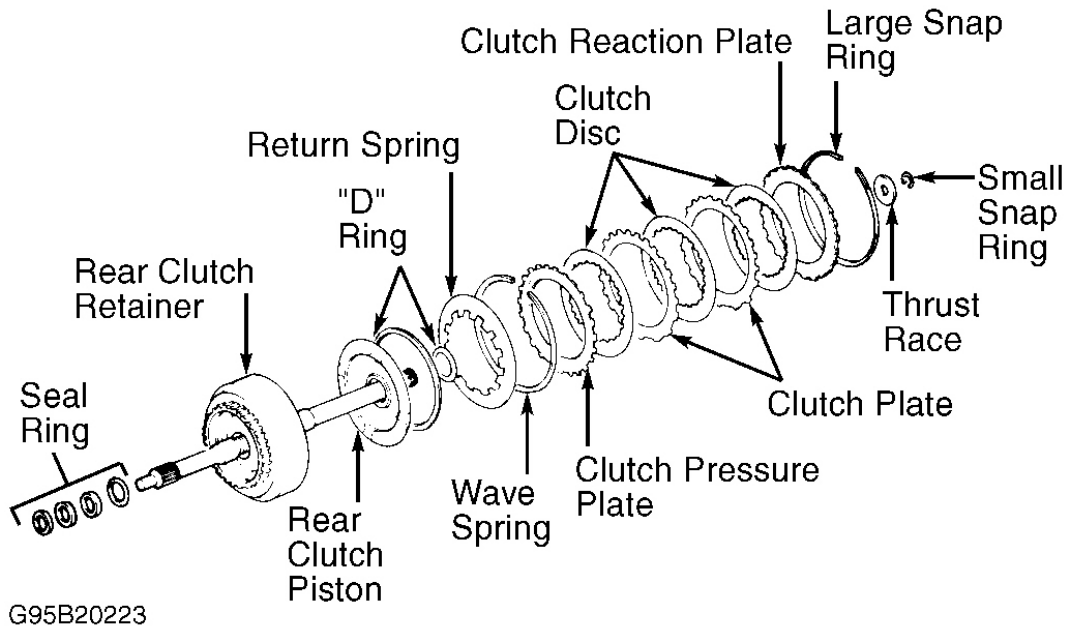

Fig. 24: Exploded View Of Typical Rear Clutch
1. Remove small snap ring and thrust race. See **Fig. 24** . Remove input shaft from rear clutch retainer.
rear clutch retainer. See **Fig. 24** . Note direction and number of clutch plates and clutch discs installation for reassembly reference, as different models may use different number of components.
- Install rear clutch piston in rear clutch retainer. Use care not to damage "D" rings when installing rear clutch piston. Install return spring on rear clutch piston. Ensure return spring is facing correct direction. See **Fig. 24** .